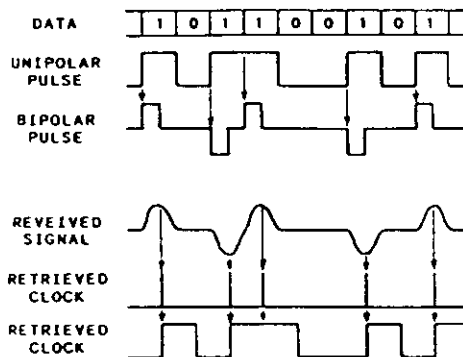

FIGURE 6-8 DATA TRANSMISSION
2.08 Bipolar signal and corresponding unipolar signal are shown in Figure 6-8.